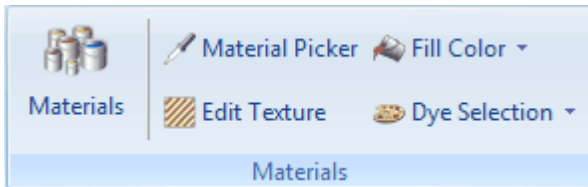
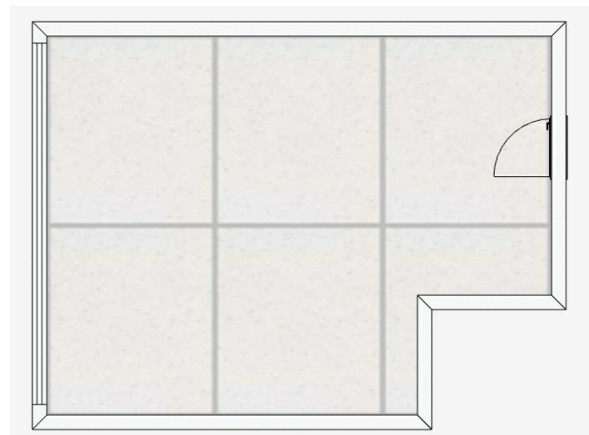

Figure 3
Figure 8
Figure 3 shows a floor that was covered with a flagstone texture. To edit this or any other
2. **Click any point of the texture.** The **Pins** that you need to adjust the texture (see figure 3) **are displayed**. **Click the relevant pin, keep** the left mouse button **pressed** and **move** the pin. (As soon as you move the pin you can let go of the left mouse button)
Figure 3 illustrates the **three different kinds of pins**. With the Context Menu entry "**Unique Pin Action**" you can **turn all pins into the shear / stretch pin**. Then all three pins switch their shape to the green quadrangle and can now be used to adjust the texture on basis of the position of each pin.
In Figure 3 you can see the **actual texture framed in light blue**. To **cover the complete floor** pCon.planner **automatically "maps" it as many times as necessary**.
Figure 8 illustrates the effect of the Context Menu entry "Reset Mapping" on the given example from figure 3.